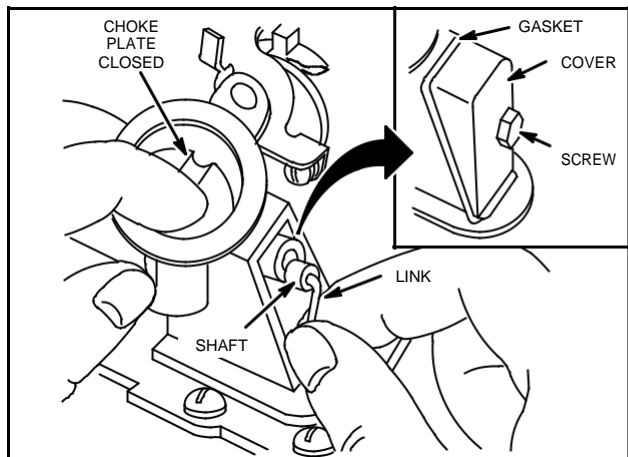

Fig. 165 - INSERTING CHOKE LINK
6. Close choke plate. Insert choke link into choke shaft as shown, Fig. 165.
3. Move choke plate to normal closed position. Choke plate should now remain fully closed, Fig. 165.